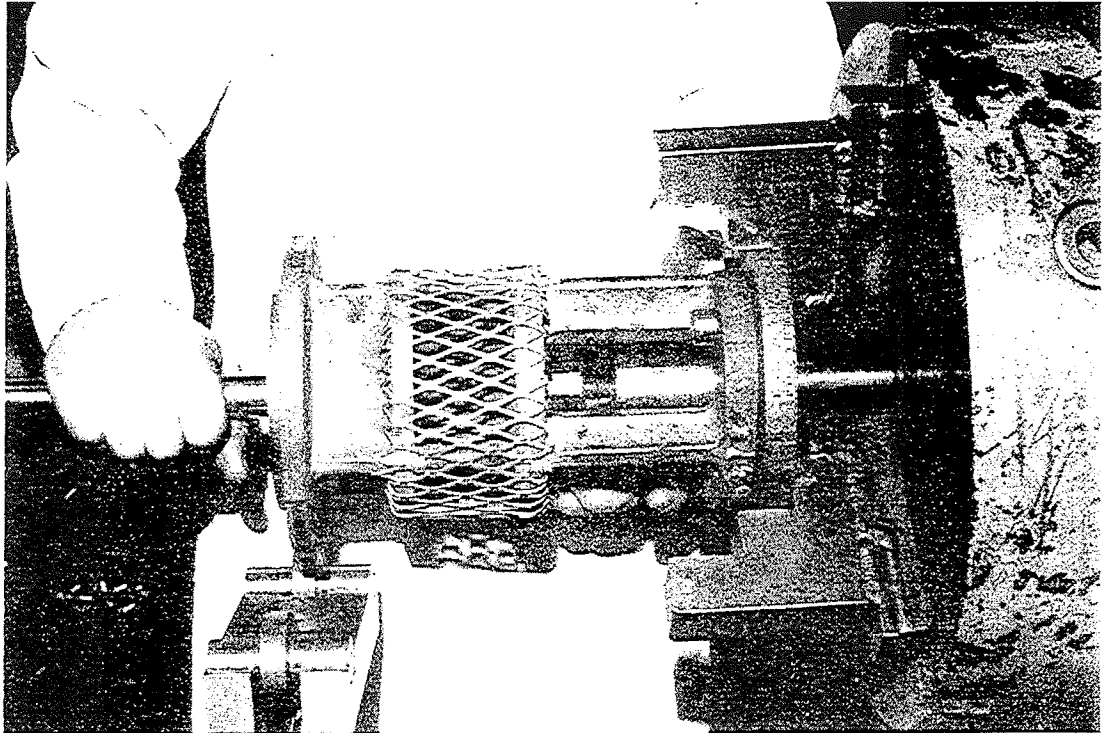

FIGURE 6-2
B. If a pumpshaft (660) is replaced, the sand collar is to be attached last to the shaft by a shrink fit. The shaft is machined with an 0.01 inch groove to locate sand collar, place large diameter of counterbore on sand collar towards discharge bowl bearing. Heat sand collar until it can slip on shaft.
C. To complete reassembly, reassemble in reverse order of Section 6-6, refer to Figures 6-2 thru 6-14.